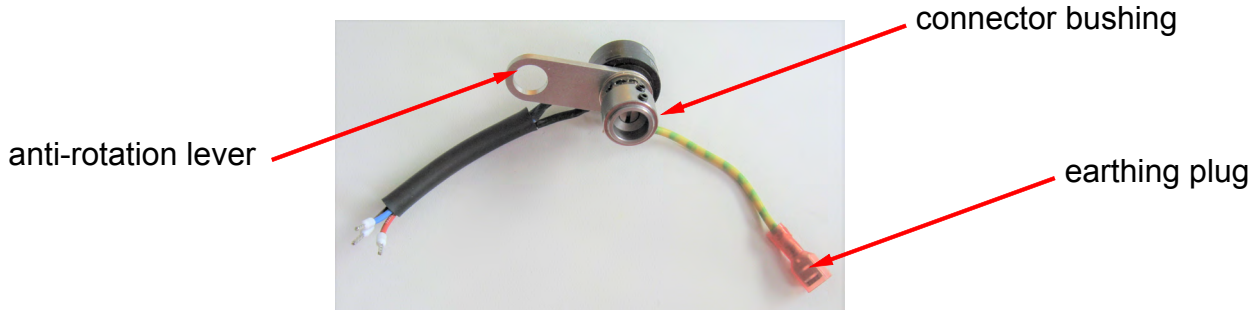

Fig. 16: Potentiometer assembly for 2 additional travel limit switches
- 1x Potentiometer assembly, 200 Ω , 1 k Ω oder 5 k Ω (Fig. 16).